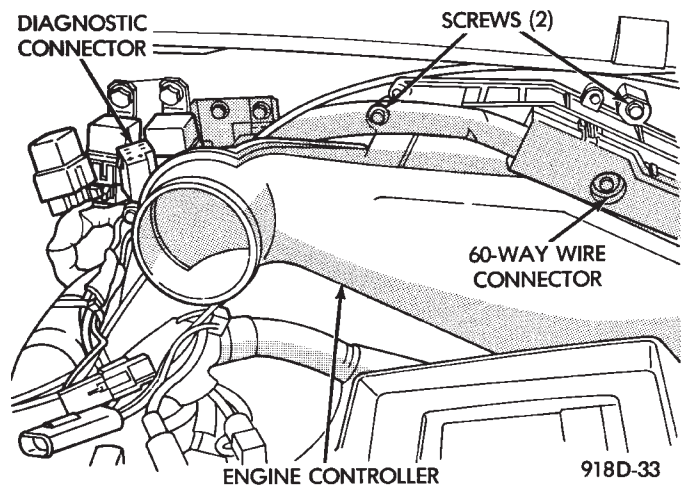
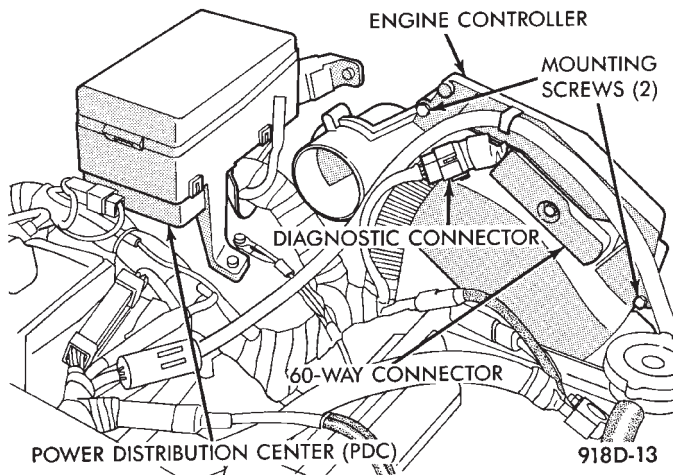
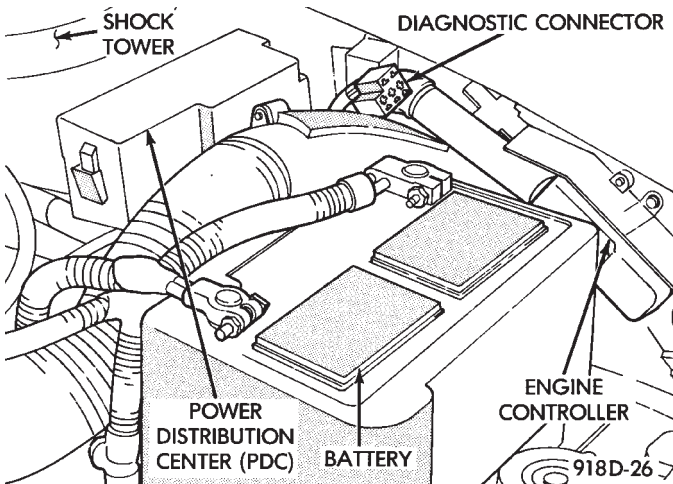

Fig. 17 Engine Controller—AA Body
Fig. 18 Engine Controller—AC Body
Fig. 19 Engine Controller—AG and AJ Bodies
(27) Inspect the engine controller 60-way electrical connector for damage or spread terminals. Verify the 60-way connector is fully inserted into the socket of the engine controller. Ensure wires are not stretched or pulled out of the connector (Figs. 17, 18, and 19).
Stored fault codes can be displayed either by cycling the ignition key On - Off - On - Off - On, or through use of the Diagnostic Readout Box II (DRB II). The DRB II connects to the diagnostic connector in the vehicle (Fig. 17, Fig. 18 or Fig. 19).